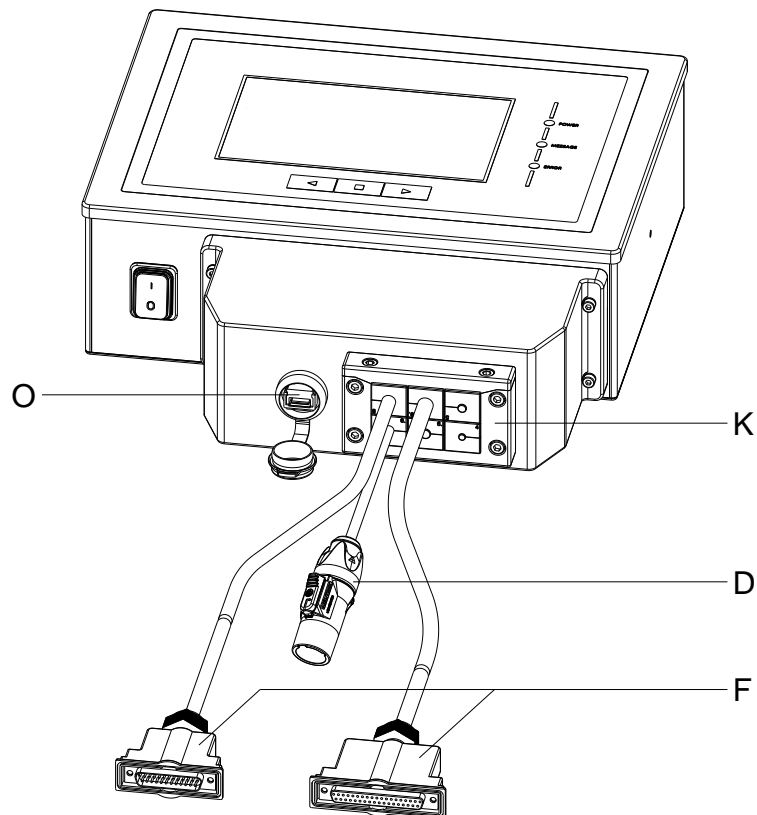

Figure 17
2. Guide the connection cable print mechanics/control unit (F) with the non-sealed side from the outside through the protective cover (G).
3. Connect the connection cable print mechanics/control unit (F) to the control unit (A).
4. If necessary, connect a connection cable for external inputs/outputs to the appropriate socket of the control unit (A).
5. If necessary, connect an Ethernet or USB data cable to the control unit (A).
6. Insert the USB data cable (E) on the inside of the protective cover (E) into the USB socket.
7. Guide the power cable (D) and if necessary, the data and I/O cable through the opening of the protective cover (G).
8. Guide the protective cover (G) in the direction of the control unit (A) until the USB data cable (E) can be connected to the control unit (A).
9. Screw the protective cover (G) to the control unit (A) with the four screws (I) and the sealing rings (H).
10. Remove the upper part of the cable entry strip (K) after removing the both screws (J).
11. Remove the cable grommets (M) that fit to the respective connection cables from the cable entry strip (K) and enclose the cables two to three centimeters in front of the protective cover (G).
12. Place the cable entry strip (K) in front of the protective cover and insert the cable grommets (M) with connection cables into the slots. The connection cables print mechanics/control unit (F) must be placed in the upper left corner and the power cable (D) should be placed on the bottom left (see Figure 17).